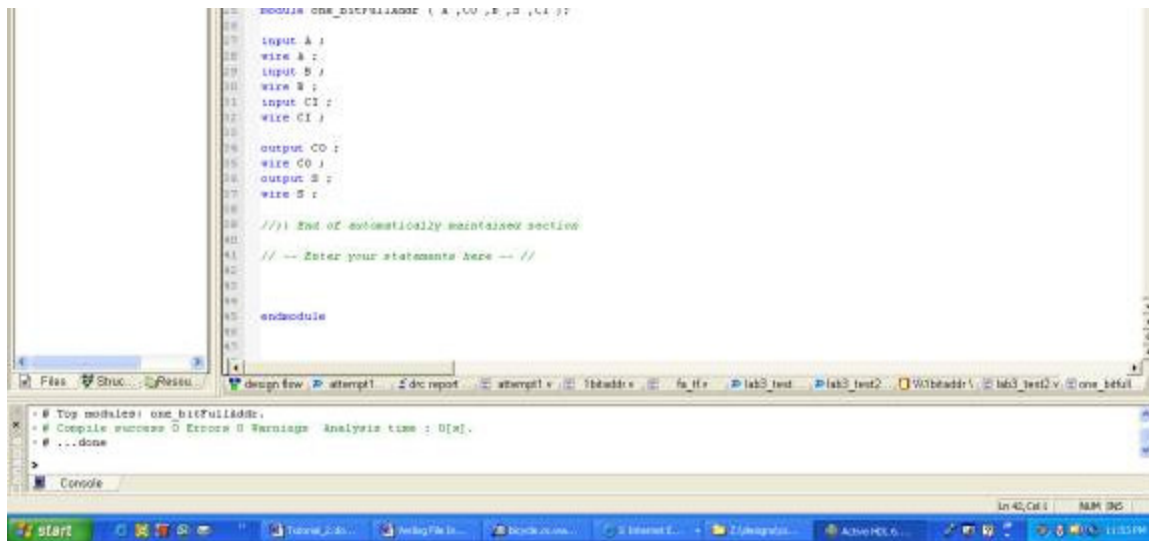

Figure 6
5. Aldec will open a Verilog file with the module, inputs, outputs, and wires already declared (see Figure 6). Locate the section of the file that contains the comment: “// -- Enter your statements here -- //”. In this area you will insert the assign statements that define CO and S in terms of a Boolean function. Refer to the Verilog introduction above.